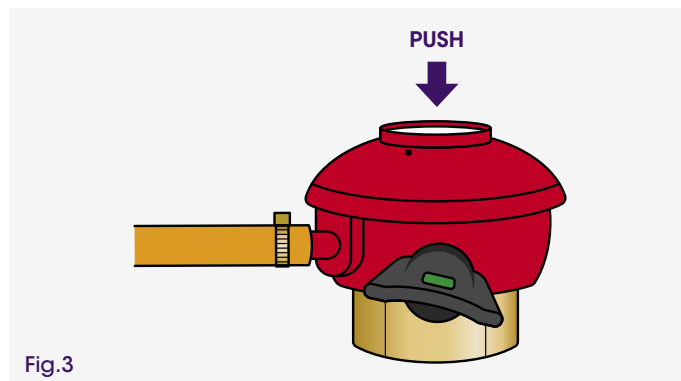

Fig.3
- the "snap on compact" regulator handle is in the "off" position (**Fig.3**).
Once the "snap on compact" is correctly mounted on the valve, gas supply is possible by turning the regulator handle ⑤ upwards (counter clockwise). To shut off the gas supply reverse the procedure an arrow engraved on the handle indicates the closing direction (Fig.3).